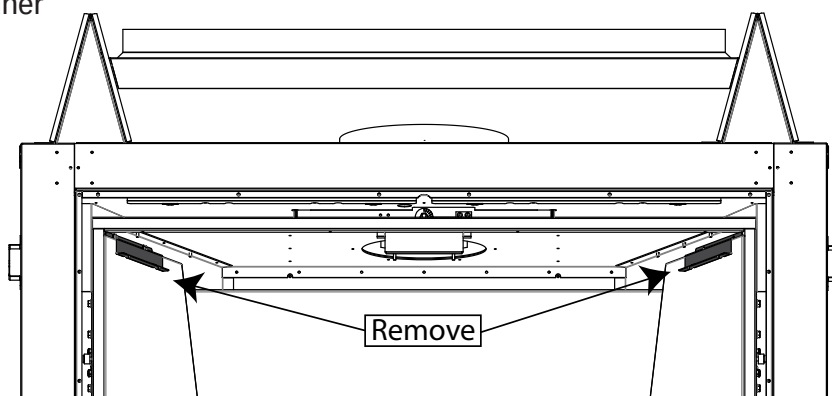

Figure 73: Liner Retainers
- Step 3.** Remove the side liner retainers one at a time using a 5/16 socket (see Figure 73). The screws only have to be loosened, not completely removed, as the retainers are slotted.